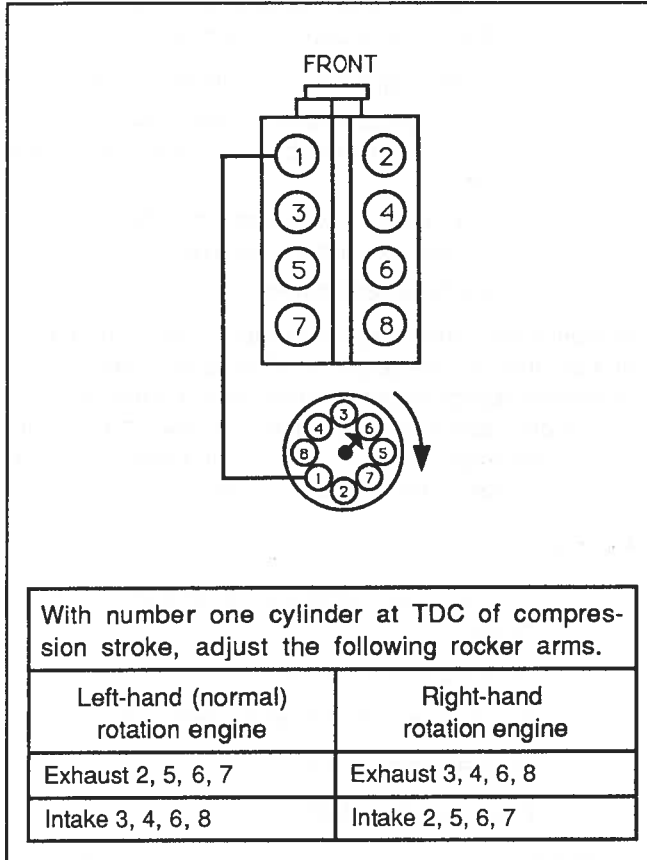

Figure 8-115. Adjusting Rocker Arms With No. 6 Piston At TDC Of Compression Stroke
5. Crank engine one revolution until pointer "TDC" mark and torsional-damper mark are again in alignment. This is No. 6 firing position. With engine in this position, see Figure 8-115 for information on which valves may be adjusted.